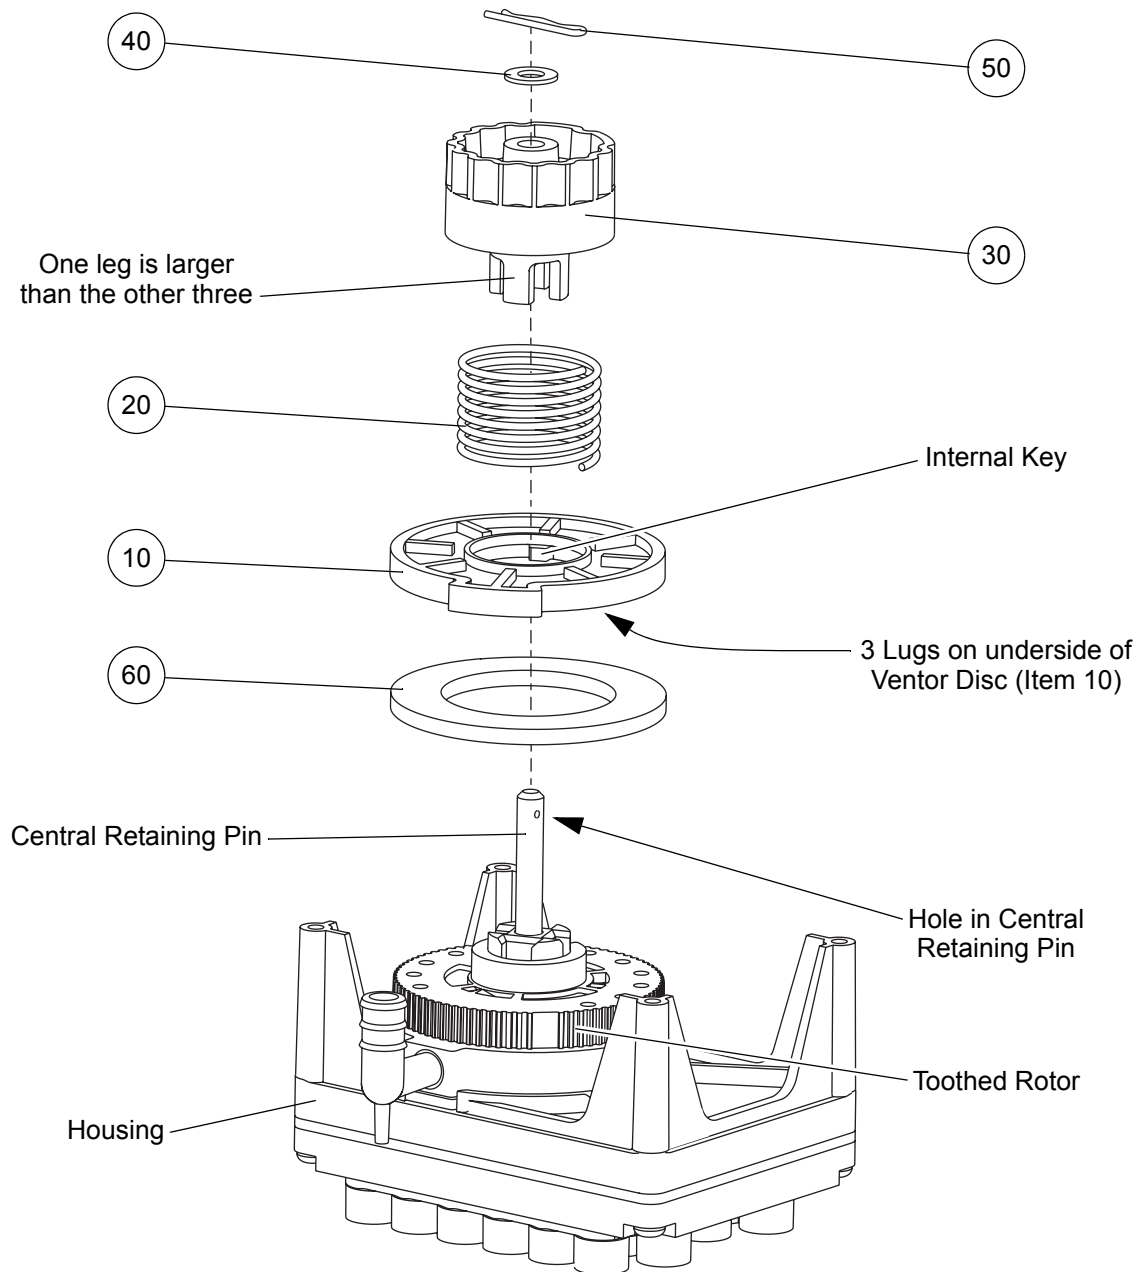

Figure 25 - Replacing the Ventor Sealing Disc on the 12-Chamber Pressure Module Assembly
- 17.2 To remove the positional sensor (Fig 25, Item 30) from the central retaining pin, do the following:
- 17.2.1 Push down on the positional sensor to compress the vantor spring (Fig 25, Item 20).
- 17.2.2.1 Pull the clevis pin (Fig 25, Item 50) out of the hole at the top of the central retaining pin.
- 17.2.2.2 Remove the washer (Fig 25, Item 40) from the central retaining pin.
- 17.3 Remove the vantor spring and vantor disc (Fig 25, Item 10) from the central retaining pin.
- 17.4 Remove the vantor sealing disc (Fig 25, Item 60) from the central retaining pin.
- 17.5 Install a new vantor sealing disc (Fig 25, Item 60) over the central retaining pin and onto the top face of the toothed rotor.
- 17.6 Install the vantor disc (Fig 25, Item 10) over the central retaining pin, with the three lugs on the underside of the vantor disc and facing towards the toothed rotor.
- 17.8 Install the vantor spring (Fig 25, Item 20) over the central locating pin and into the "retaining groove" in the top of the vantor disc.
- 17.9 Install the positional sensor (Fig 25, Item 30) over the top of the vantor spring, with the four legs on the underside of the positional sensor and facing towards the toothed rotor.
- 17.11.4.1 Install the washer (Fig 25, Item 40) over the end of the central retaining pin.
- 17.11.4.2 Push the clevis pin (Fig 25, Item 50) into the hole at the top of the central retaining pin (refer to Figure 25). Make sure the clevis pin is secure.